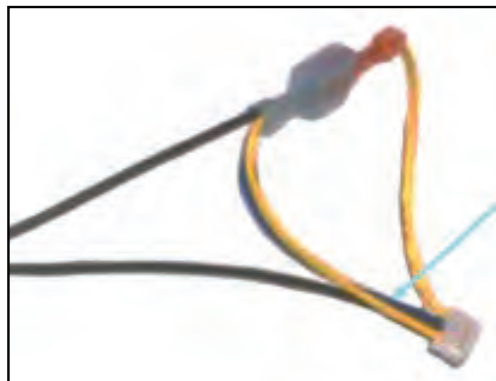

Figure 14 – Jumper Cable with Blue Wire
1. Check to see if there is a blue wire in the jumper cable (See **Figure 14**).